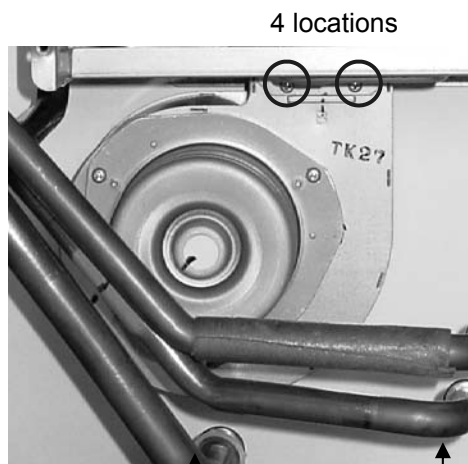

Figure 7
20. Slide the fusible link between the water outlet and inlet tubes and onto the new heat exchanger. (Figure 7)